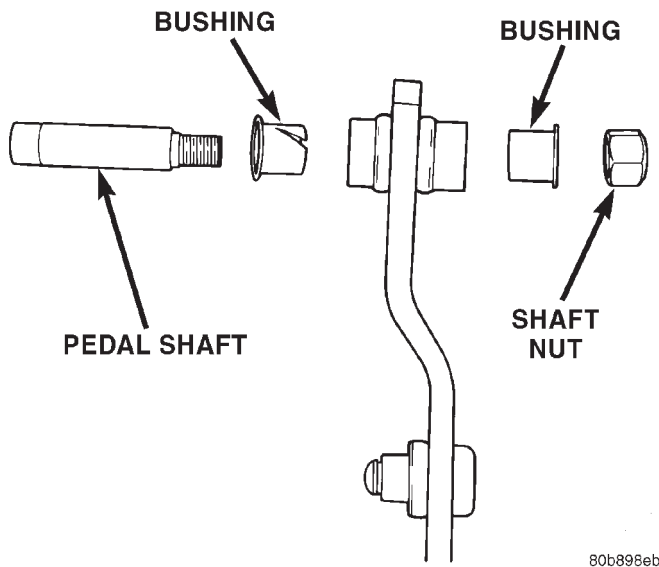

Fig. 18 Pedal Bushings
(2) Remove nut from pedal shaft.
(3) Slide pedal shaft out and remove brake pedal.
(4) Remove pedal bushings (Fig. 18) if they are to be replaced.